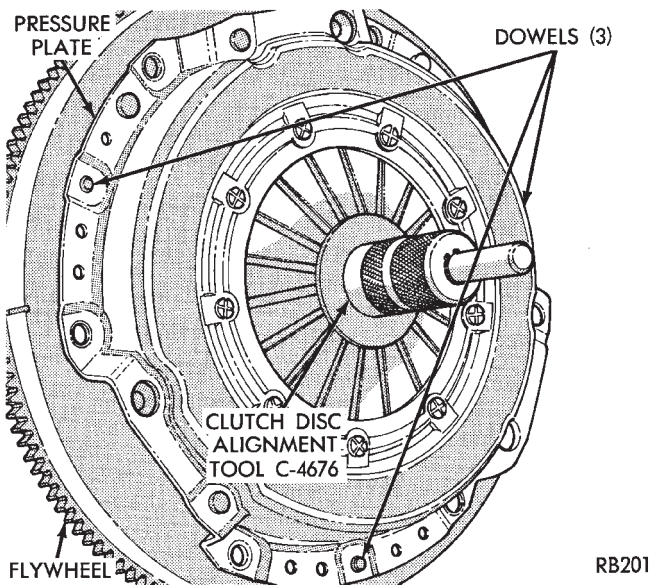

Fig. 4 Clutch Disc Aligning Tool
(3) Insert Clutch Disc Aligning Tool C-4676 through the clutch disc hub to prevent the clutch disc from falling and damaging the facings (Fig. 4).
(4) Loosen clutch cover attaching bolts, one or two turns at a time, in a crisscross pattern, to release spring pressure evenly and avoid cover damage.